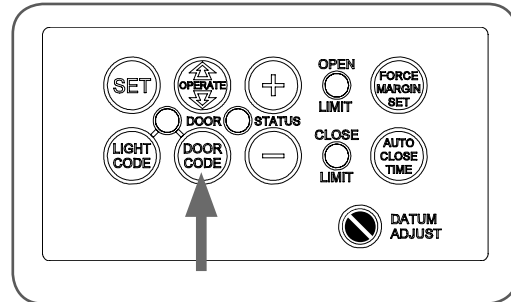

fig 22
- Press and hold the DOOR CODE button (Fig. 22).